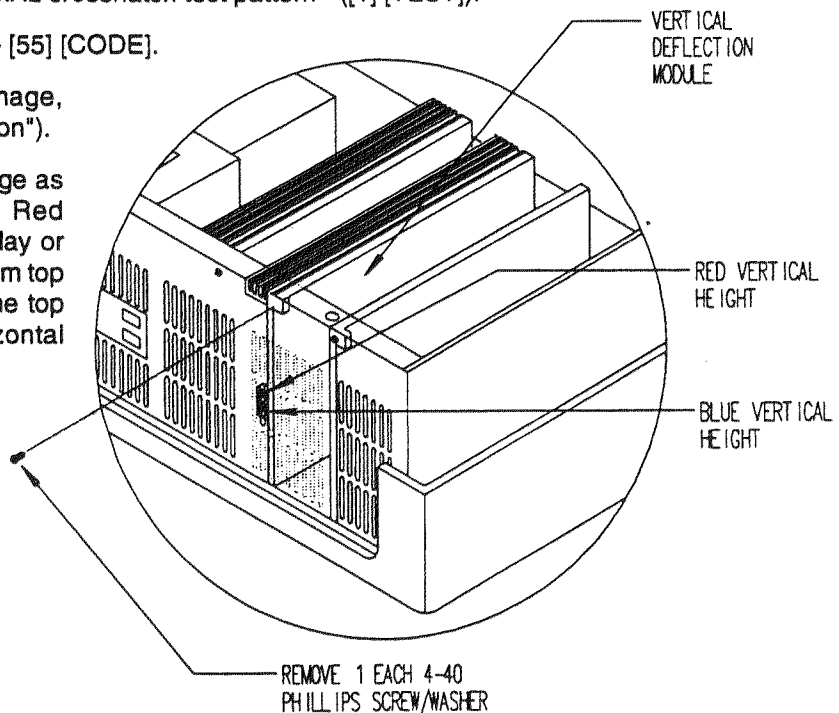

FIGURE 10-13. VERTICAL DEFLECTION MODULE REPLACEMENT.
- STEP 5. Using the Green image as your reference, adjust the Red Vertical Height control to overlay or equal but opposite the error from top to bottom, concentrating on the top and bottom outermost horizontal lines. See Figure 10-13.
- STEP 6. Using Green or Red as your reference color, adjust the Blue Vertical Height control as described in STEP 5. See Figure 10-13